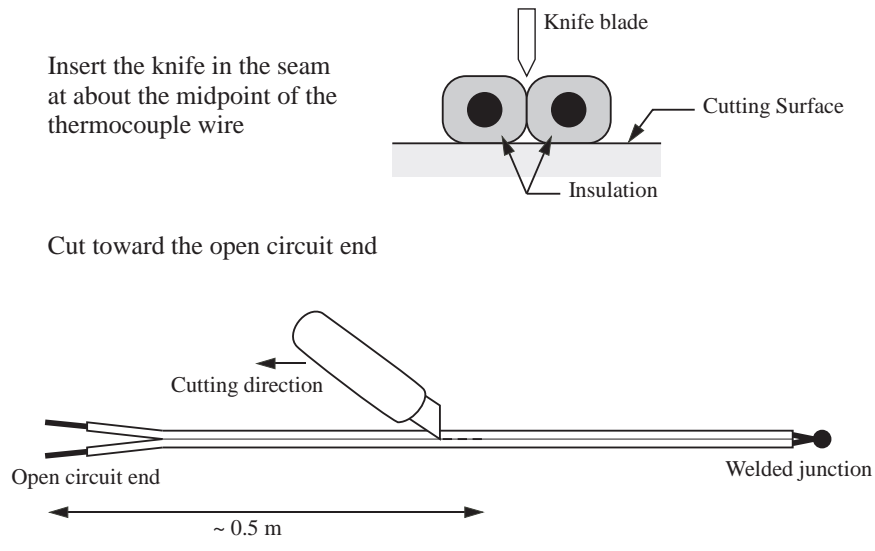

Figure 1: Splitting thermocouple wire to create the circuit in Figure 4.
- b. Lay the thermocouple wire on the cutting surface. Refer to Figure 1. At approximately midway between the welded junction and the open circuit end of the thermocouple, insert the point of a sharp utility knife into the seam between P and N legs of the thermocouple.